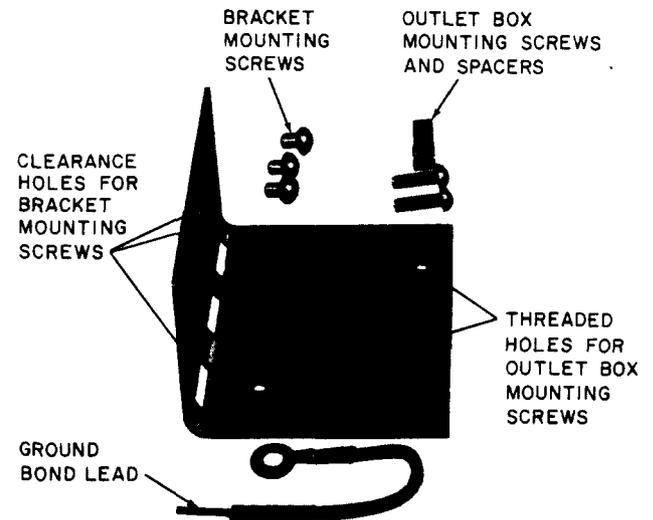

Fig. 4—B Mounting Bracket
- (c) Bracket, Mounting, B (for mounting outlet box on recreational vehicle, Fig. 4).
2.05 The B mounting bracket (Fig. 4) is used to mount the B outlet box on recreational vehicles. It consists of a stainless steel angle bracket with three clearance holes on one side for mounting to trailer tongue and two threaded holes on the other side for mounting the B outlet box. Included are three stainless steel thread cutting screws for mounting